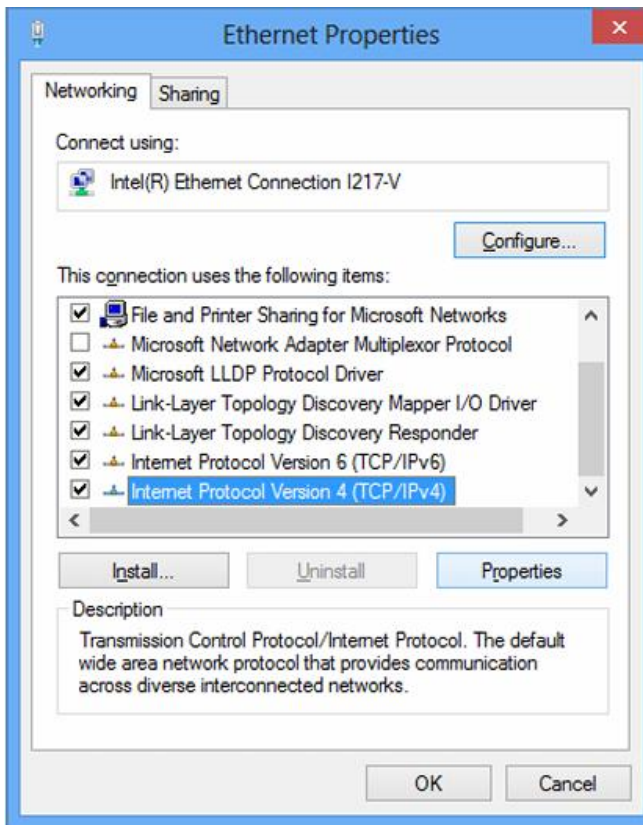

Figure 6 : Ethernet Connection Properties (Network and Sharing Center)
d. Click on "Internet Protocol Version (TPC/IPv4)", and select "Properties", as in Fig. 6